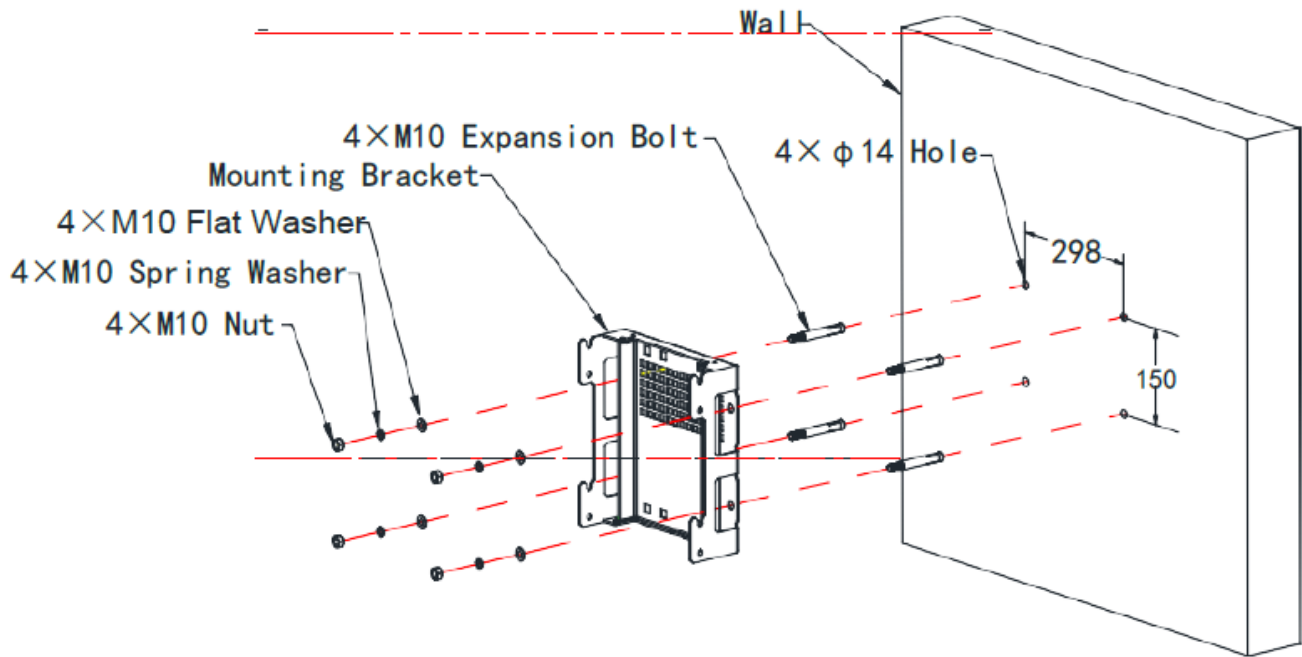

Figure 5 Mounting Bracket Installation Diagram
Step 2: use hammer push 4 M10 expansion bolt into the hole of the wall, fix the mounting bracket (ADAS-S5100-5812) to the wall according the Figure 5.